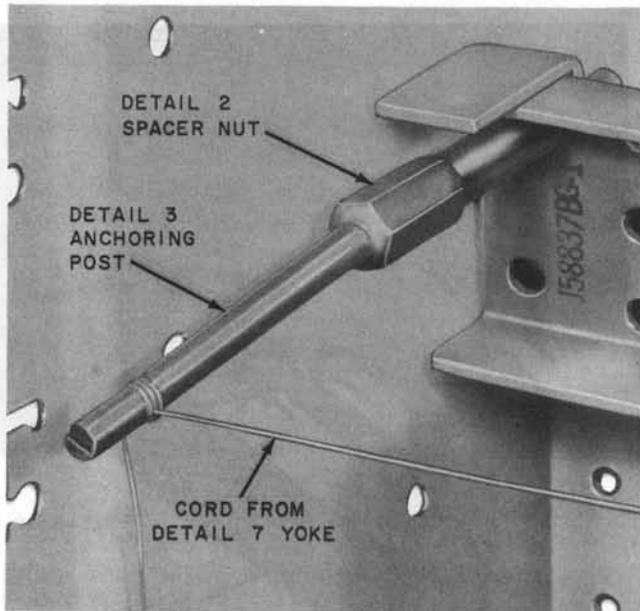
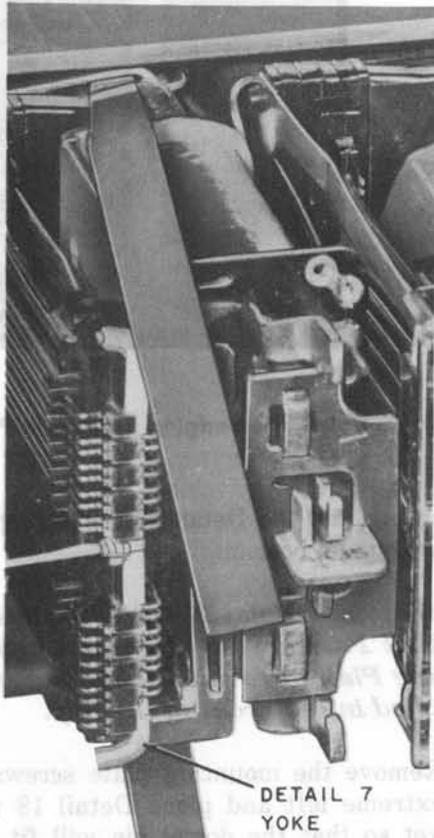

Fig. 15—Detail 3 Anchoring Post Inserted in Left Detail 2 Spacer Nut
Fig. 21—Detail 7 Yoke in Place Between Contacts
- (h) Insert the Detail 3 anchoring post into the left Detail 2 spacer nut and hand tighten. See Fig. 15.
3.42 Insert Detail 7 yoke between the right movable contacts and fixed single contacts as shown in Fig. 21. Holding Detail 14 comb in place, carefully remove Detail 16 lifter and then remove Detail 14 comb. All contacts should mate properly.
3.43 Tie Detail 7 yoke assembly (Fig. 21) to Detail 3 anchoring post (Fig. 15) using lock stitch. Pull only tight enough to release the pressure of the spring assembly against the core plate of the relay and tie. Clamp spring can now be released.